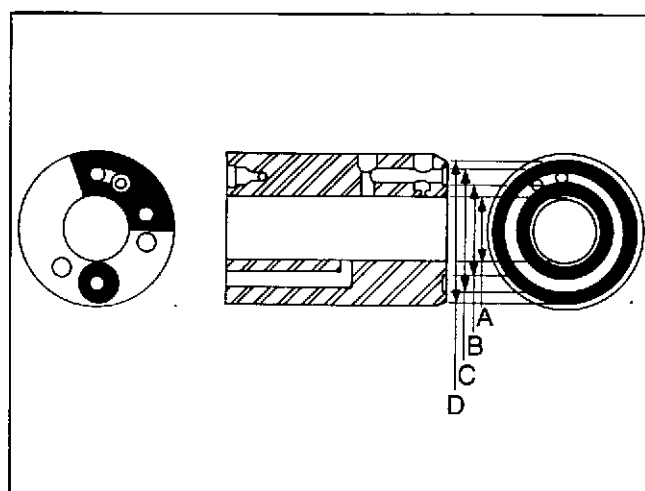

Fig. 2-16, (F60191). Barrel surface at cup contact area
4. Check the injector barrel surfaces for mutilation and flatness in the black area as shown in Fig. 2-16. The groove has been removed from the cup end of the barrels manufactured in England and the direct fuel feed injectors.
Table 2-2: Cup Contact Area of Barrel — Fig. 2-16